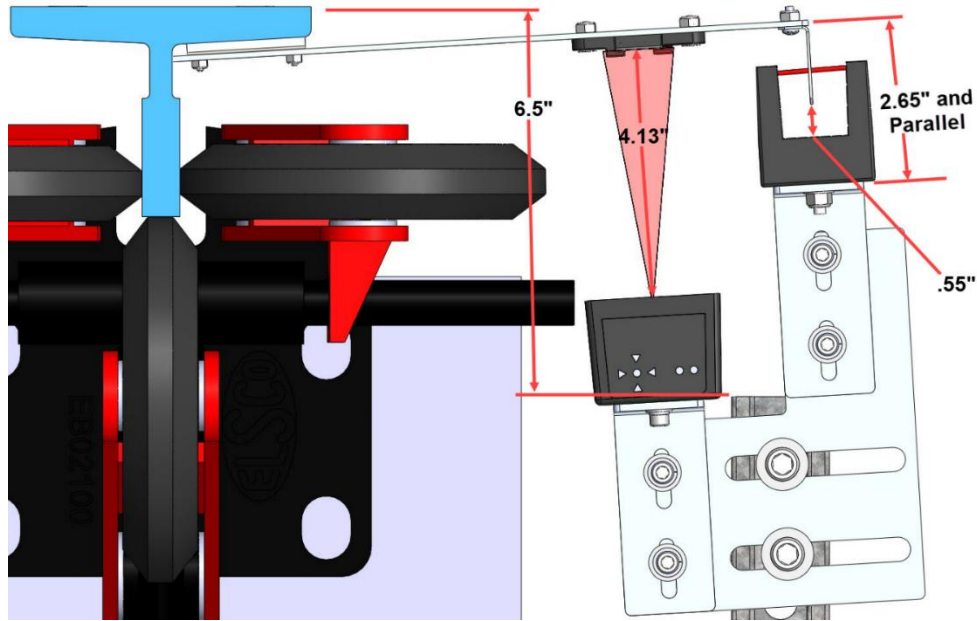

Figure 90: Sensor Array Assembly Positioning
5. Set the end of the 24" length Unistrut at 6.5" from the rear surface of the guide rail (See Figure 90).
6. Loosely bolt the Sensor Array Assembly onto the 24" length of Unistrut with the Door Zone Blade centered horizontally in the GLS Reader and parallel to the Tape Clip Assembly (See Figure 90).